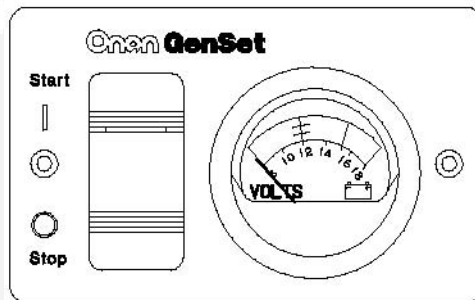

FIGURE 28. REMOTE SWITCH / DC VOLTMETER
- Remote start/stop switch with status indicator light and DC voltmeter (Figure 28).